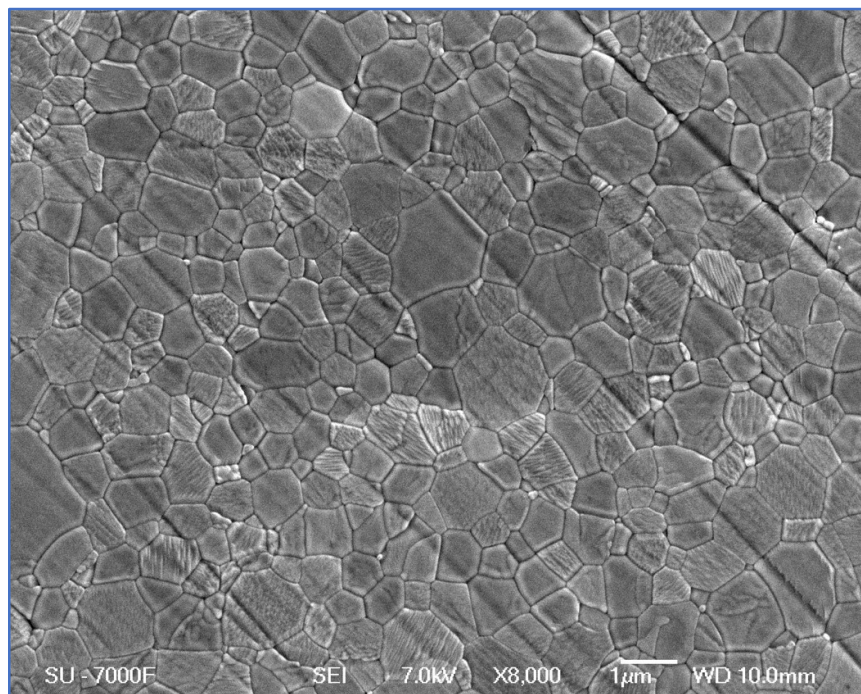

Fig. 1: Scanning electron micrograph of polycrystalline alumina for grain size measurement.
- From the micrograph supplied (Scanning Electron Micrograph) on the first page of this section (Fig. 1), use the line method to evaluate the average grain size.